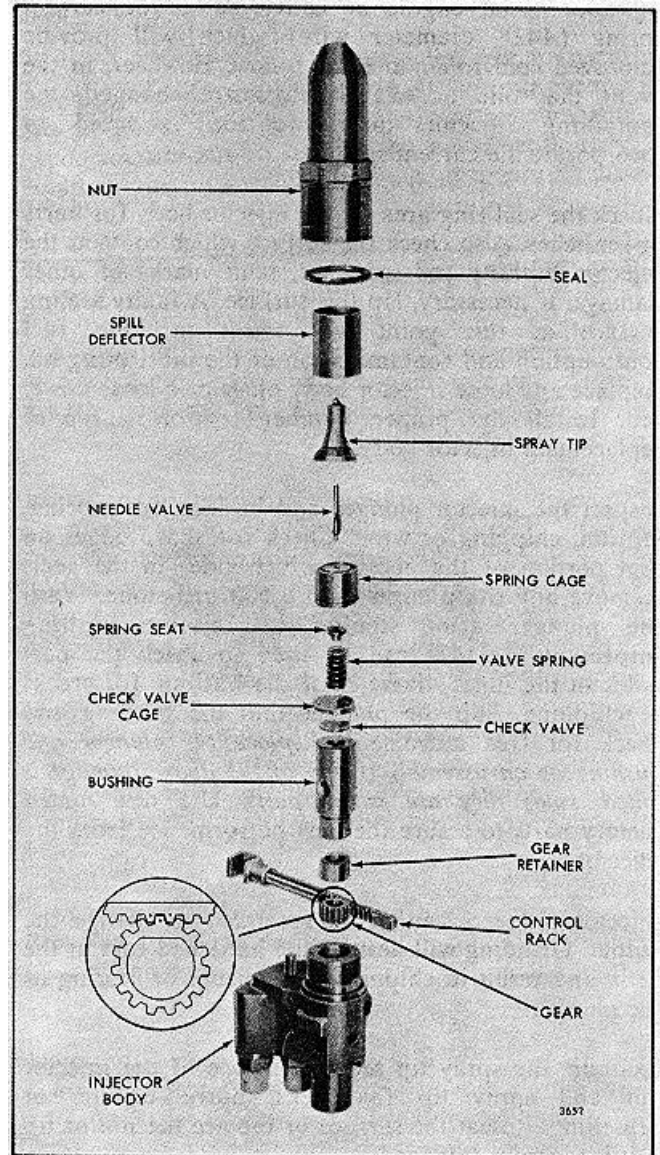

FIG. 36 Injector Rack, Gear, Spray Tip and Valve Assembly Details and Relative Location of Parts
6. Refer to Fig. 36 and remove the spill deflector. Then lift the bushing straight out of the injector body.
Refer to Fig. 36 and note the drill spot marks on the control rack and gear. Then proceed as follows:
2. Place the gear in the injector body so that the marked tooth is engaged between the two marked teeth on the rack (Fig. 36).
Refer to Fig. 36 and assemble the parts as follows: